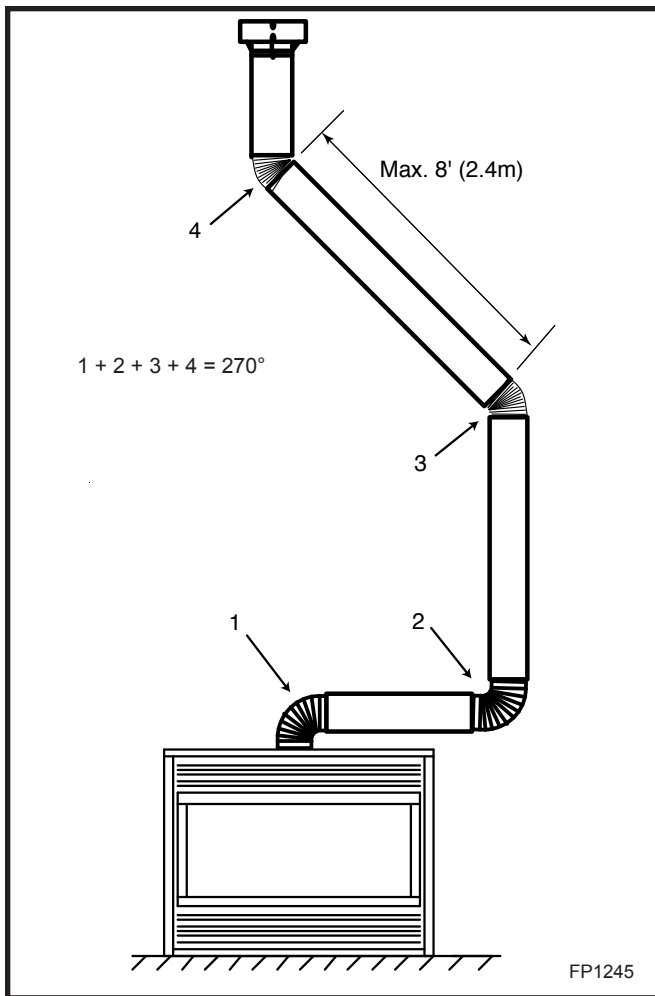

Fig. 56 Typical offset application.
- Two sets of 45° elbows offsets within these vertical installations. From 0 to a maximum of 8' (2.m) of vent pipe can be used between elbows. (Fig. 56)